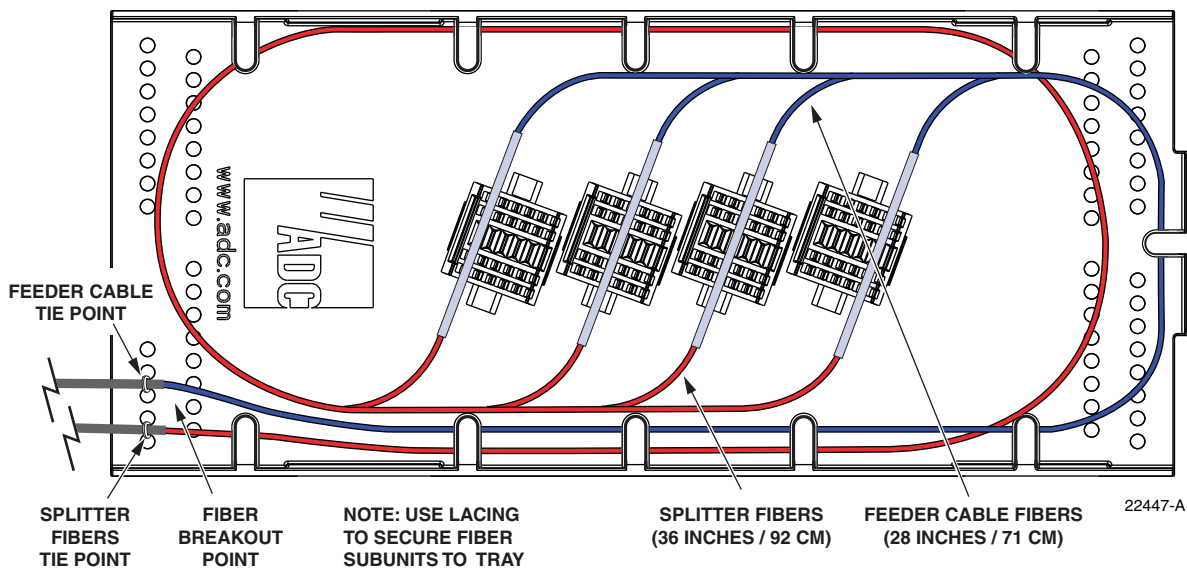

Figure 26. Stranded Fiber Splice Tray - Feeder Cable Splicing
10. Splice the feeder cable fibers to the appropriate splitter fibers as specified by local policies and procedures. Adjust and route the fibers within the splice tray as shown in Figure 26. Refer to Table 3 for the splitter fiber designations.